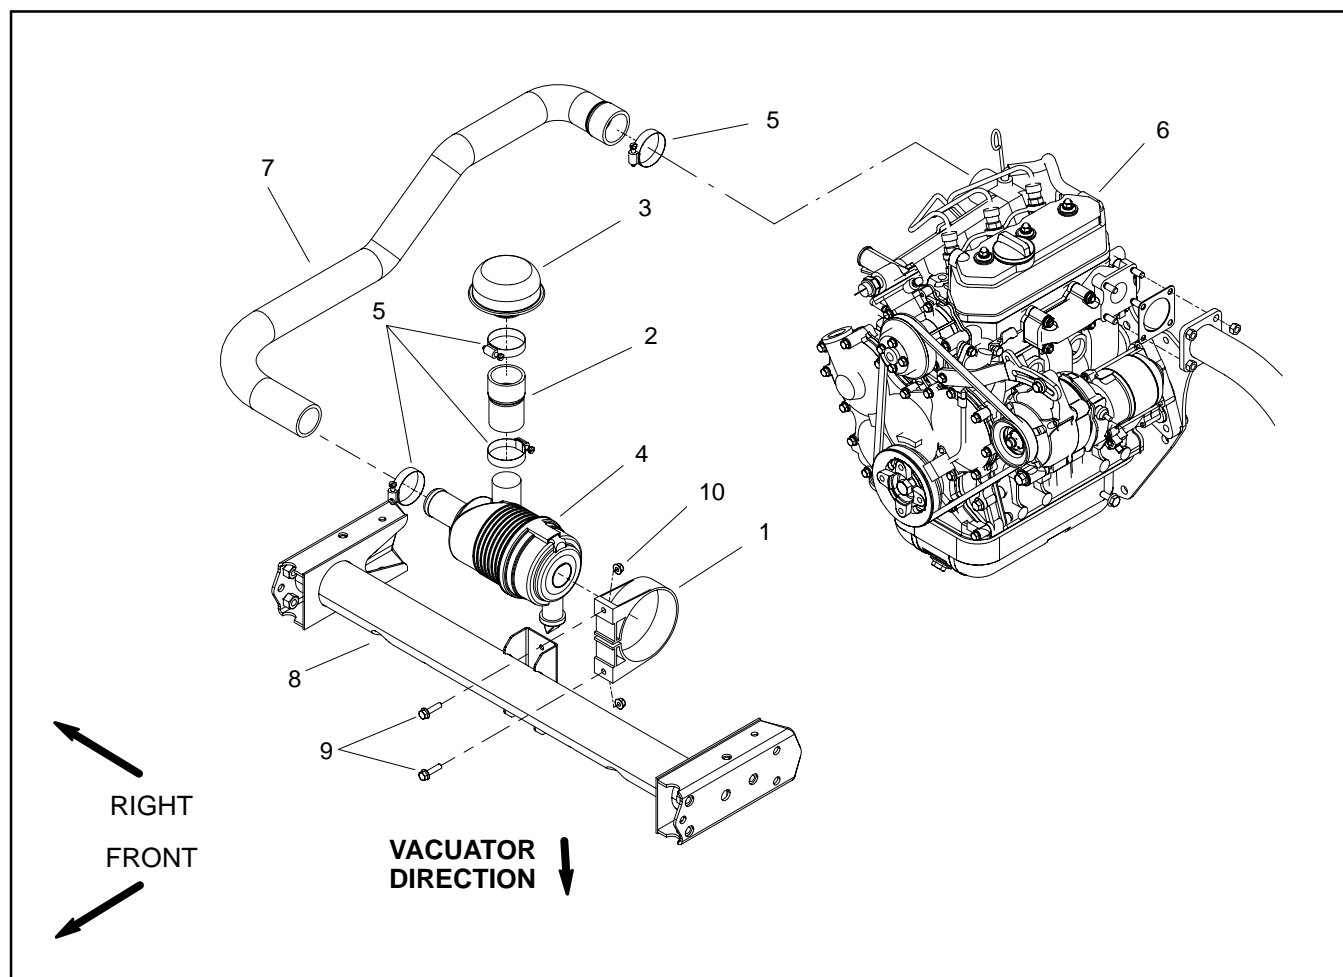

Figure 4
Removal (Fig. 4)
3. Remove air cleaner components as needed using Figure 4 and 5 as guides.
Installation (Fig. 4)
1. Assemble air cleaner system using Figure 4 and 5 as guides. Air cleaner hose (item 2) and air inlet hood (item 3) should be positioned straight upward. The vacuator valve on the air cleaner assembly should be positioned downward.